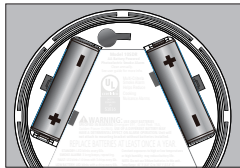

Figure 11
- To activate the alarm, install a AA battery in each battery compartment, making note of the polarity markings (see Figure 11). Activation is confirmed by a single chirp. If the chirp does not occur, remove batteries and re-install them. Confirm the activation chirp occurs.